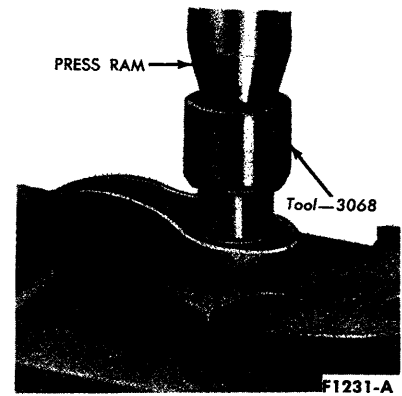

FIG. 13—Installing Upper Arm Front Bushing
7. With the rear bushing cup washer on the shaft, insert the end of the shaft into the rear bushing. Press the front bushing onto the shaft and into the arm using the replacer, tool 3068 (Fig. 13). Bottom the bushing flange against the flange in the arm.